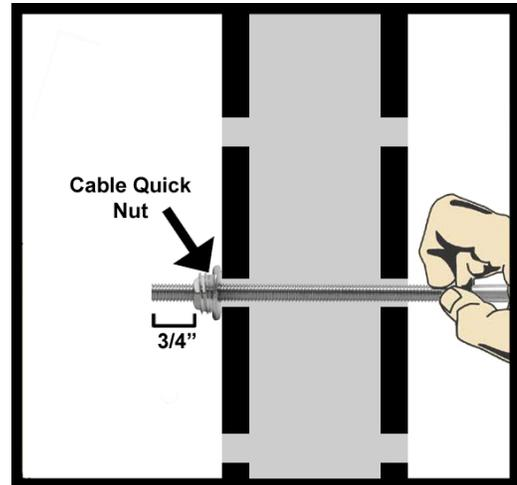

Fig 3
- 4:1) Choose one of your terminal posts (where the cable starts or stops) as the start of your run. Push one factory-threaded tensioner through one hole and screw on the Cable Quick Nut whereby only 1/2" of the thread is exposed on the outside face of the post. (Fig. 3) Repeat for all holes of this post.